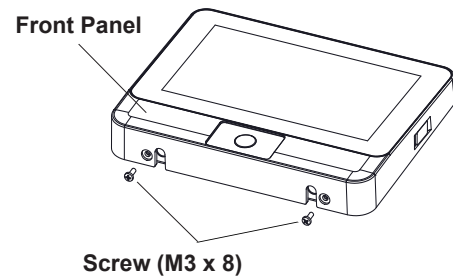
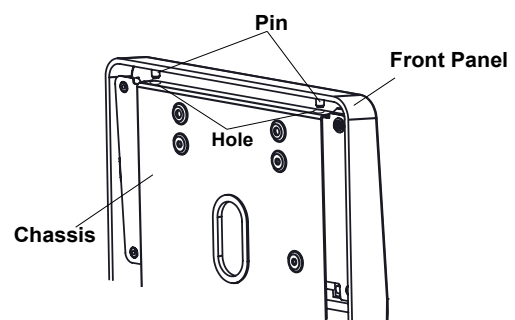

Fig.3-19 Opening Front Panel
Fig.3-22 Upper side of Sub Controller
1. Remove two (M3 x8mm) screws from the under side of the controller and open the front panel. (Fig.3-19)
7. Set the pins located on the upper side of the front panel into holes on the top of chassis and attach the front cover to the chassis with two (M3 x 8mm) screws. (Fig.3-19 & Fig.3-22)